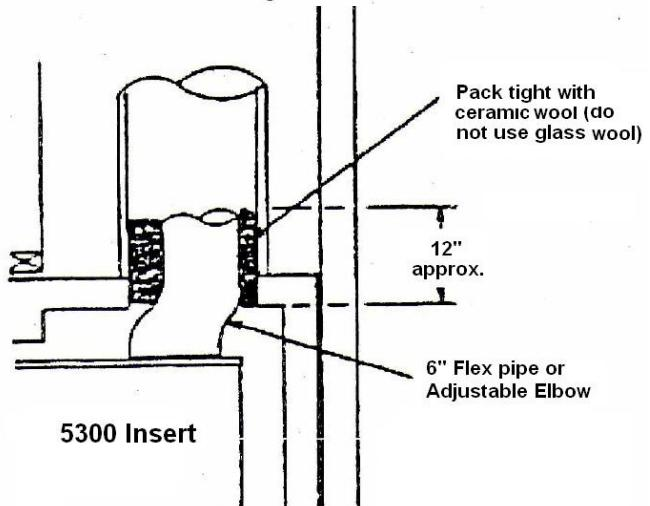

Figure 3
1. 6" flexible pipe may be used in place of standard stove pipe. (See figure 3)
2. You may use a flexible stove pipe elbow (See Figure 3)